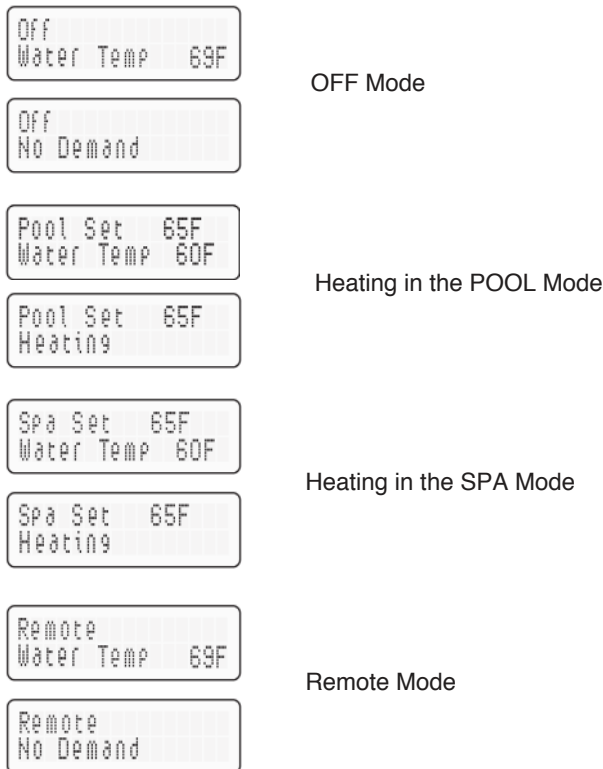

Figure 28. Remote Control Menu - Remote Operation
**CAUTION:** Before installing remote controls to the P-156 heaters, read the following: The digital thermostat model is remote-ready in most cases. The digital liquid crystal display (LCD) shows the actual pool temperature, operating status, and service codes. See Figure 28. The touch pad on the control panel allows you to select the desired pool or spa temperature. It also indicates when a remote system is controlling the heater by displaying Remote in the display. When connecting the heater to a remote system, identify whether it is a two- or three-wire remote system. Select the appropriate instruction listed below to properly install the remote to the heater.